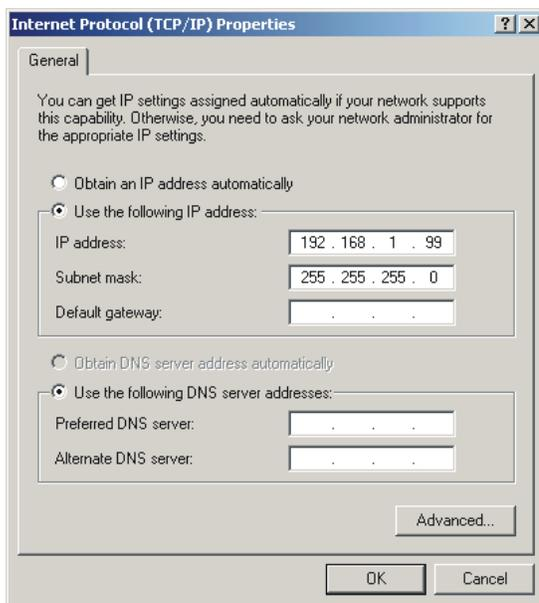

Figure: 9 TCP/IP Protocol Settings
- Modify (or verify) your network card TCP/IP settings. This can be done by going to the <Start> menu, select <Settings> and <Control Panel>. From the <Control Panel> window, you double click on the <Network> icon. In the icon <Network>, click on the <Configuration Tab> dialog box and then the <Installed Component List box>. Highlight the entry TCP/IP-> Ethernet-card (connected to Modbus Box). If your computer has multiple network cards configured, make sure that you select is the right one. After highlighting the entry, click <Properties>. Next, select the <IP ADDRESS> tab. Write down the existing settings. To modify the settings, select the <SPECIFY an IP Address:>. See Figure 9.